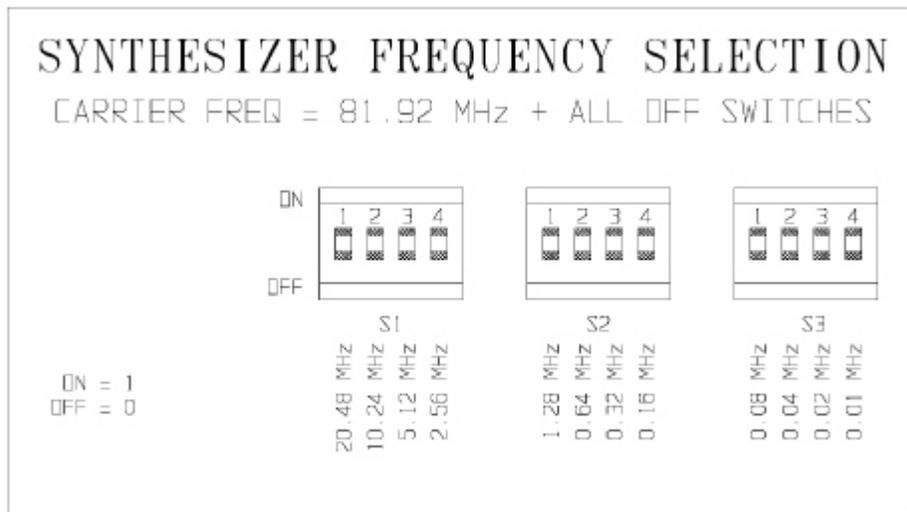

Figure 9-3. FREQUENCY SELECTION
The exciter carrier frequency is established by programmable frequency synthesizer switches S1, S2, and S3 on the AFC/PLL circuit board assembly (refer to Figure 9-3). The position of each switch corresponds to a weighted binary number (refer to Table 9-2).
- C. Refer to Figure 9-3 and program four-segment switches S1, S2, and S3 for the desired frequency.